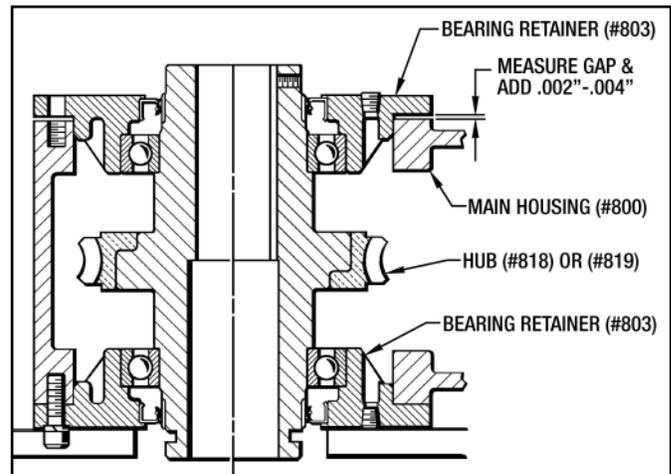

Figure 9.10 - Setting End Play for the Hub.
- Measure the gap between the Bearing Retainer (#803) and the Main Housing with a feeler gauge as shown in Figure 9.10